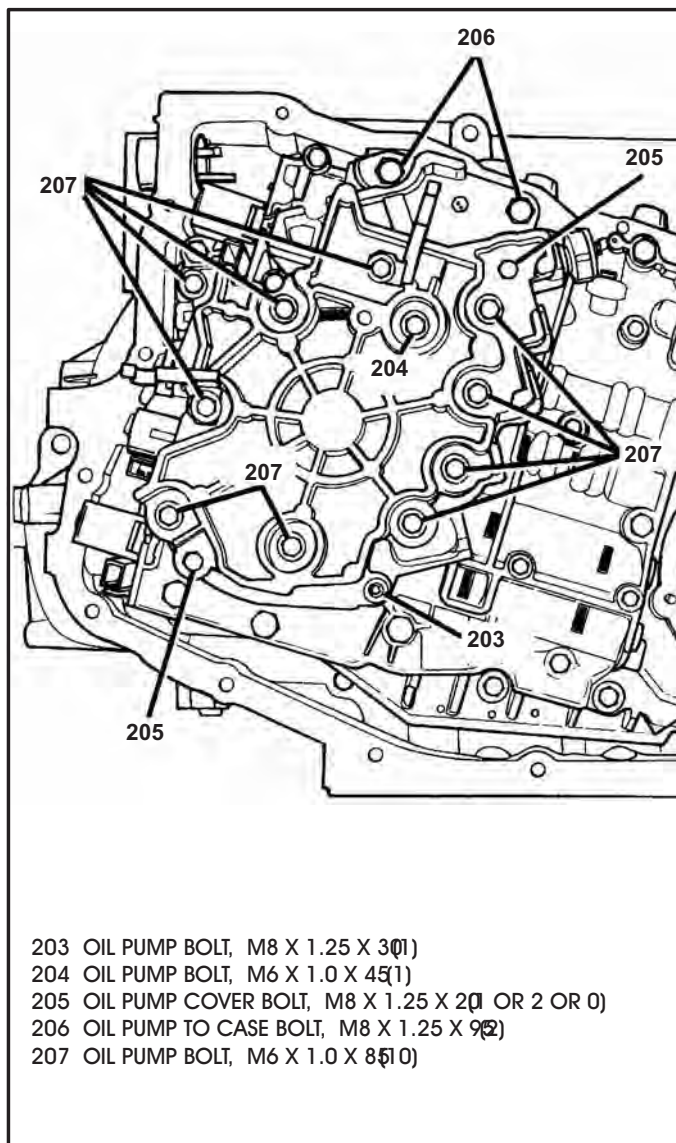

Figure 208
85. Install oil pump retaining bolts in their proper locations, as shown in Figure 208.
87. Torque the remaining oil pump retaining bolts to 27 N·m (20 ft.lb.) (See Figures 208 & 209).